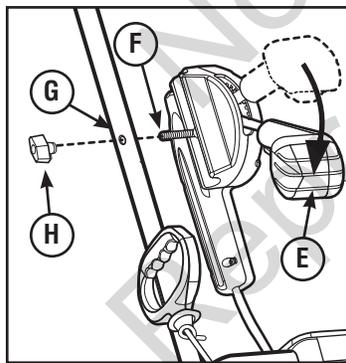

Figure 6
1. Rotate the control lever (E, Figure 6) to full/forward position before attaching to the handle.
2. From inside the unit, insert bolt (F) of remote chute control into hole (G) and fasten with wing knob (H).